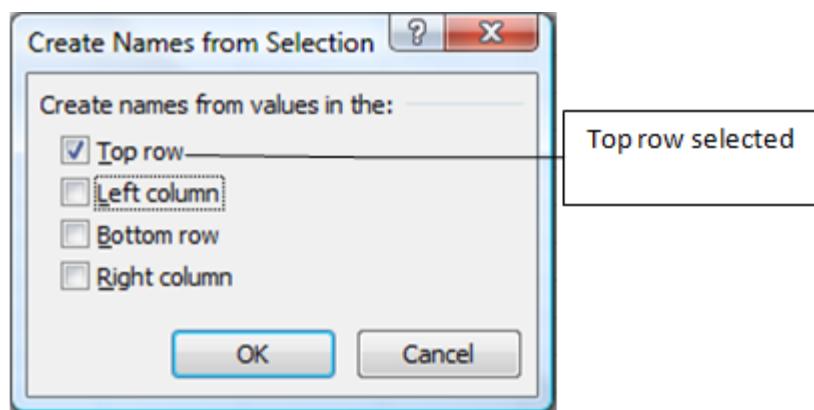

Figure 8.17. Top row will be used to name the ranges.
3. In the *Create Names from Selection* dialog box, click to remove the arrow from the Left column check box and be sure that the Top row check box is selected as shown in Figure 8.17.